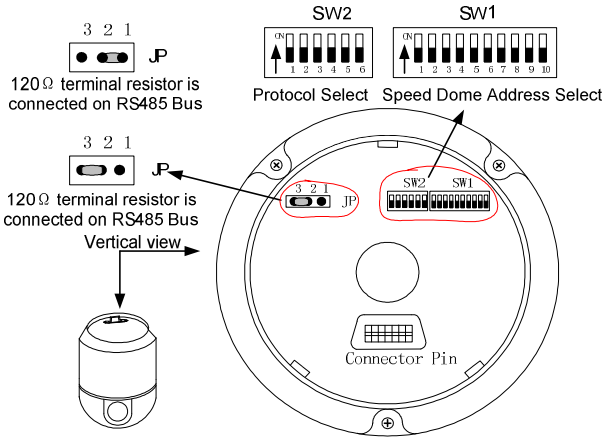

Figure 2
As shown in Figure 2,3, SW1 is used to set address of the dome camera from 1 – 1023. The coding switches from DIP-10 to DIP-1 are equivalent to a 10-bit binary digital. DIP-10 is MSB while DIP-1 is LSB. The state “ON” of each bit means 1 while “OFF” means 0. Following table shows states of coding switches of some addresses.
2. **Setup of the Protocol and the Default Baud Rate.** As shown in Figure 2, SW2 is used to set the protocol of communication and the baud rate used by the dome camera. DIP-4 to DIP-1 of SW2 is used to select protocols and 16 different protocols can be selected in maximum. Following table shows states of coding switches of protocols selected by the dome camera.
3. Setup of the Baud Rate of Communication. As shown in Figure 2,3 SW2 is used to set the protocol of communication and the baud rate used by the dome camera. DIP-6 and DIP-5 of SW2 are used to select the baud rate of communication and 4 different baud rates can be selected in maximum. If the controller adopts non-standard baud rate, you can adjust it to be identical with that of the main machine as per the following table.
4. Selection of the Terminal Resistor of the Dome Camera..As shown in Figure 2、 3, JP1 is the select switch of the 120 Ω terminal resistor on the bus RS485, on which only one terminal resistor of the dome camera at the farthest end can be connected, while the terminal resistors of other devices should be opened.